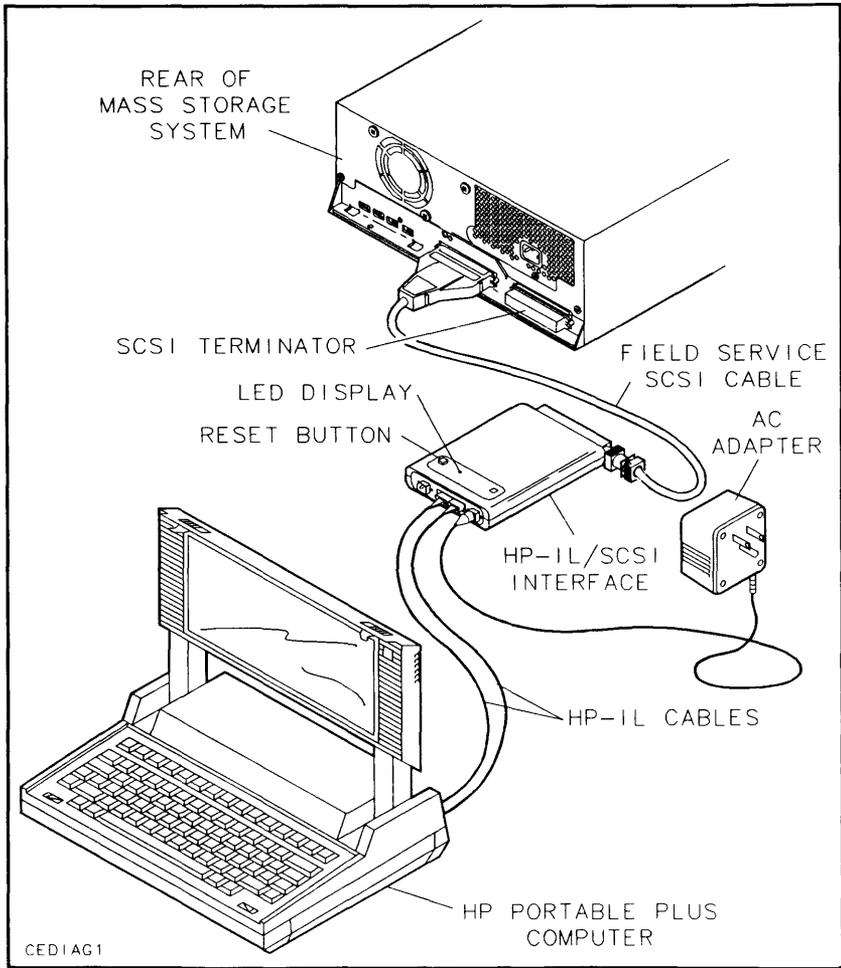
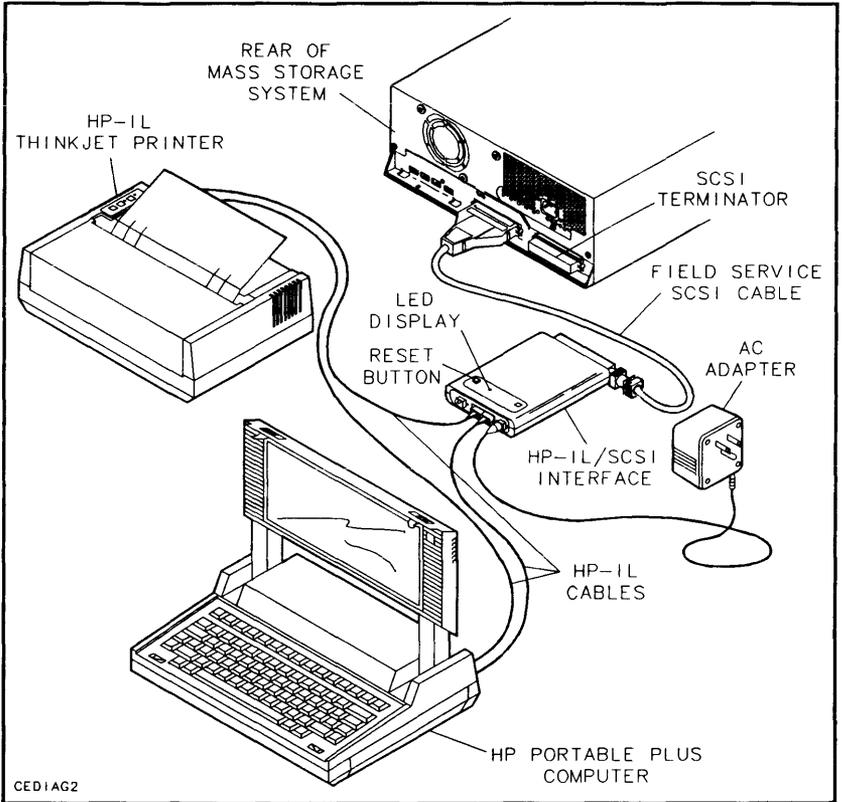

Figure 1-1. Diagnostic Equipment Connections with Portable PLUS Only
Figure 1-2. Diagnostic Equipment Connections with Printer and Portable PLUS
Figures 1-1 and 1-2 show how to connect the equipment required to use the mass storage diagnostic programs with the HP Portable PLUS. If you are connecting a printer to the Portable PLUS, refer to the following documentation for configuration information: *Using the Portable PLUS* (reorder number 45711-90002) and the user manual for the printer you are connecting.
4. Connect the field service SCSI cable to the HP-IL/SCSI interface. Make sure the connector on the field service SCSI cable is properly oriented before connecting it to the interface (see Figure 1-1).
7. Connect the computer and the printer to the HP-IL/SCSI interface using HP-IL cables (see Figure 1-2). If the printer is not being used, connect the computer to the HP-IL/SCSI interface as shown in Figure 1-1.